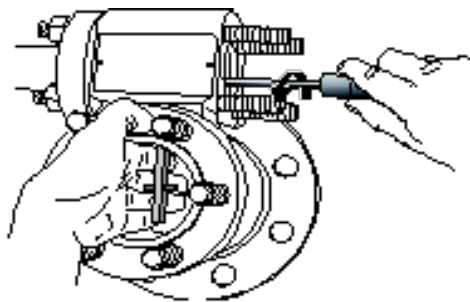

Figure 23
9.3 Removal of 12400 Case and Torque Tube Sub-Assembly (See Figures 23 & 24)
To remove the displacer, the torque arm must be removed. When the two arm screws (133) are loosened, hold the torque arm so as not to damage the torque tube (Figure 23).
- Remove the upper flange (146) and blind flange (144).
- Lower the torque arm (135) and unhook the displacer (130). A hook-shaped 3 mm steel wire facilitates unhooking and holding of the displacer. The wire may be inserted through the clevis hole.
- Remove the two torque arm screws (133) and remove the torque arm (135) from the chamber.
- Remove the displacer from its chamber (131) or tank.
- Be sure that requirements for instruments installed in explosive areas are strictly followed. Remove screw (106) from connection compartment and unscrew cover (104). Disconnect supply electrical wires and other equipment from terminals (90).
- Remove nuts (142) holding the torque tube subassembly and slide the subassembly out of the mechanism chamber.
For installation, reverse the procedure outlined for removing a DLT case and torque tube sub-assembly (section 9.3). It is recommended that new gaskets (143 -149) be used when installation is performed (see figure 23).